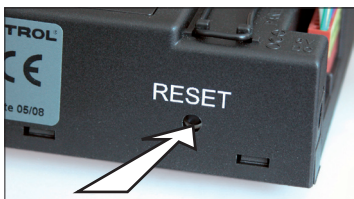

Figure 8: Receiver reset button
- Press and hold the receiver's reset button (see figure 8) until you hear two (2) acoustic signals. After the second, longer acoustic signal, release the reset button.